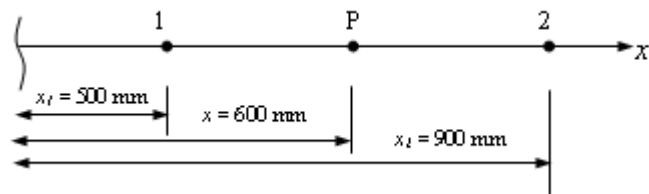

Figure 6:
- (b) Evaluate the natural coordinate ξ , shape function N_1 and N_2 at point P shown in figure 6. If $q_1 = 0.075$ mm and $q_2 = -0.125$ mm determine the value of displacement q at point P. [6+10]